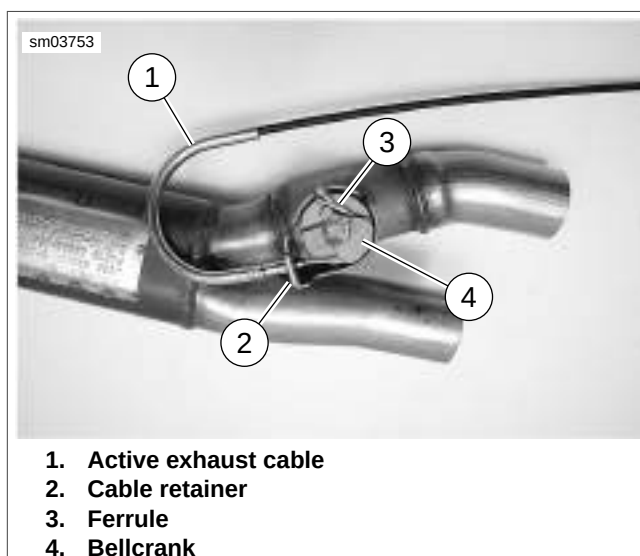
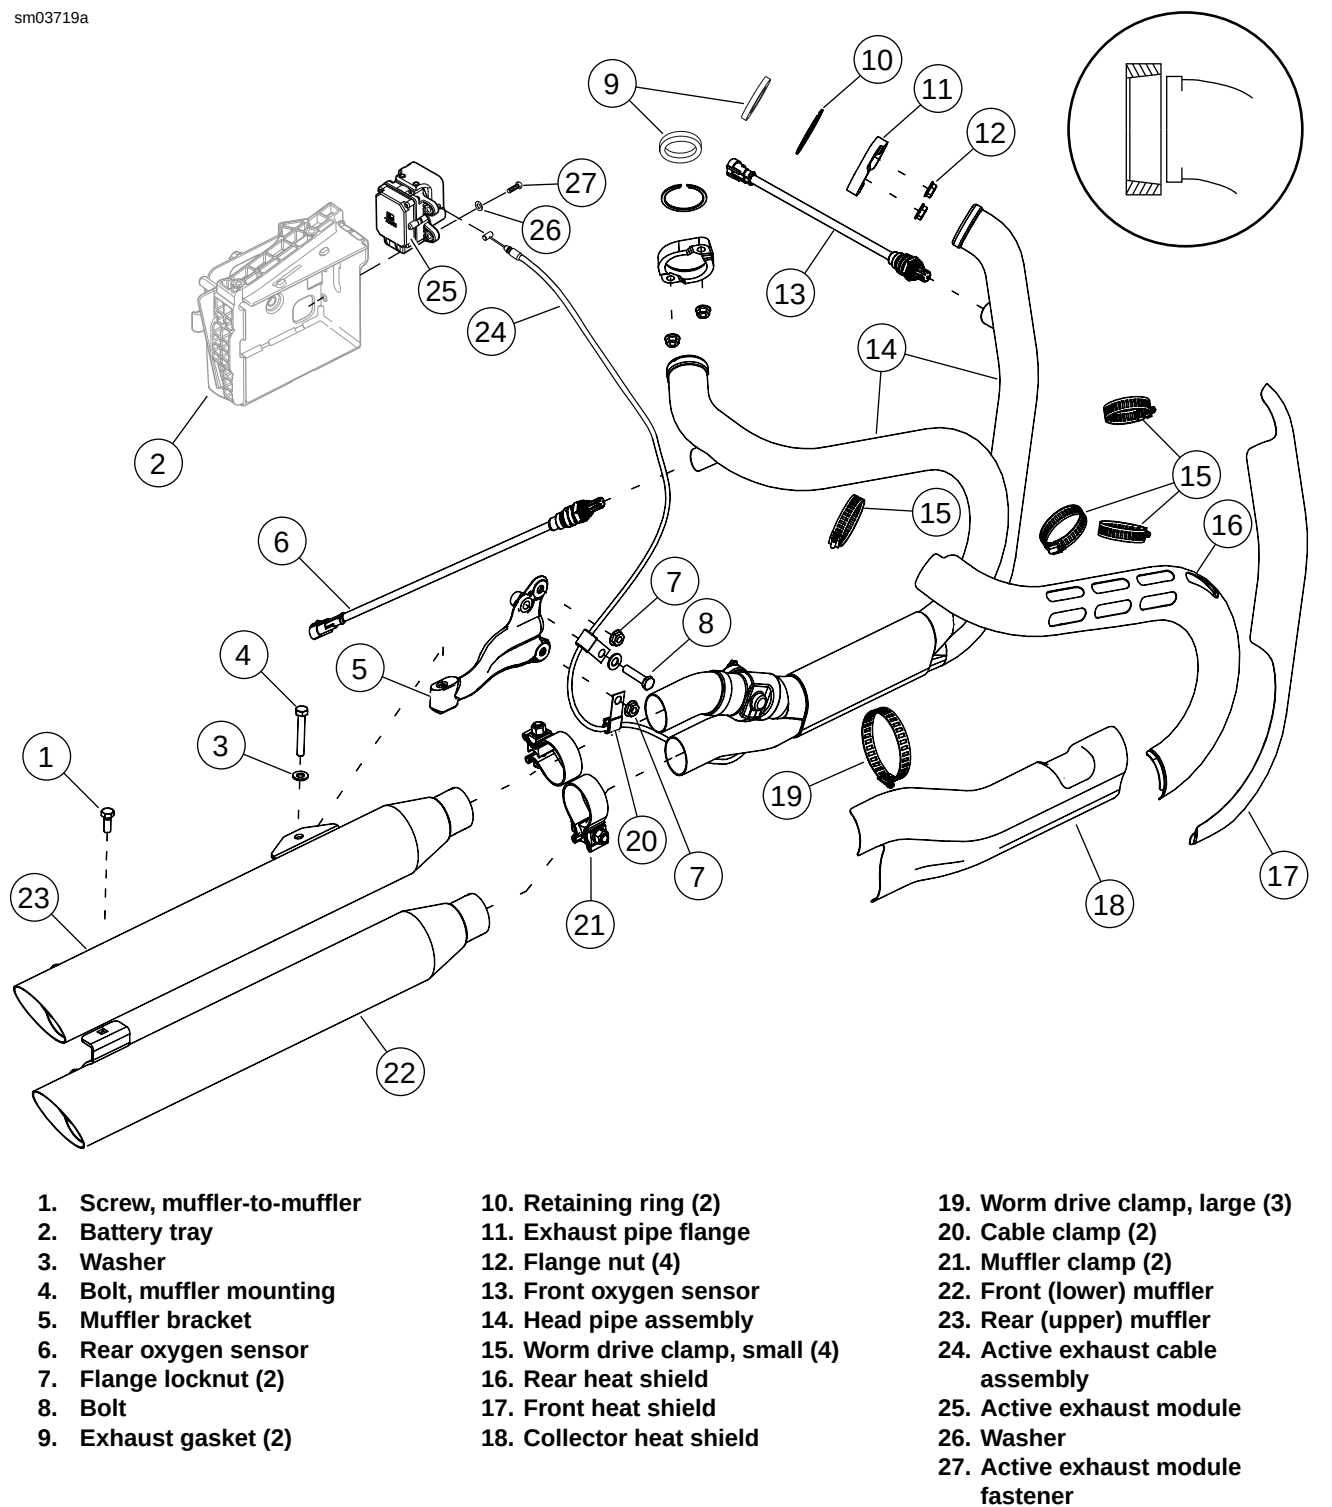
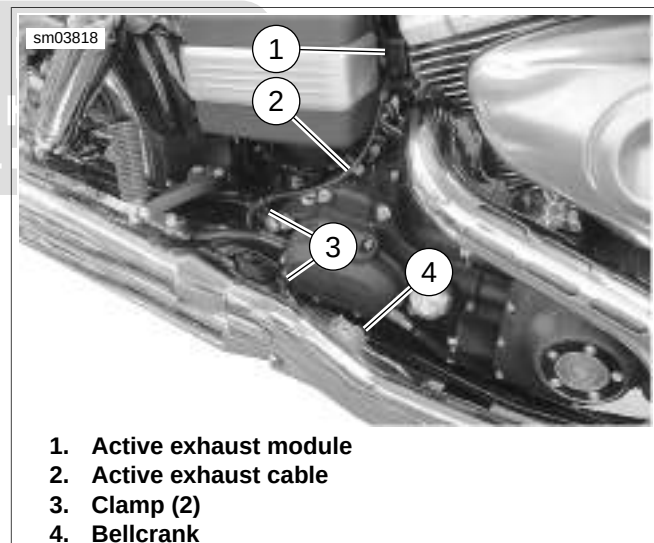

Figure 4-67. Bellcrank: FXDF
Figure 4-68. Exhaust System: FXDF
Figure 4-69. Active Exhaust Cable: FXDF
4. See Figure 4-67. On models with an active exhaust module, remove active exhaust cable (1):
- a. Remove cable and retainer (2) from exhaust pipe.
- b. Remove ferrule (3) from bellcrank (4).
5. See Figure 4-68. Remove screw (1) attaching mufflers together.
6. Remove muffler support bracket bolt (4) and washer (3) attaching mufflers (22, 23) to rear exhaust bracket (5).
7. Loosen nuts on muffler clamps (21). Remove mufflers.
9. Remove flange nuts (12) from front and rear cylinder head exhaust studs.
10. Remove head pipe assembly (14).
11. If necessary, remove flange locknuts (7) and bolt (8) to remove muffler bracket (5).
See inset in Figure 4-68. Replacement exhaust gaskets (9) are tapered internally. Be sure the thin end goes over
1. See Figure 4-68. If removed, install muffler bracket. Tighten flange locknuts (7) to 15-19 ft-lbs (20.3-25.8 Nm). Tighten bolt (8) to 15-19 ft-lbs (20.3-25.8 Nm).
2. Position ends of head pipe assembly (14) into front and rear cylinder head exhaust ports with holes in exhaust manifold flanges (11) over cylinder head exhaust studs. Loosely install flange nuts (12).
3. Slide muffler clamps (21) onto exhaust pipes.
10. Tighten muffler mounting bolt (4) to 15-19 ft-lbs (20.3-25.8 Nm). Tighten muffler attaching bolt (1) securely.
12. See Figure 4-67. On models with an active exhaust module, install active exhaust cable (1):
- a. Install ferrule (3) in bellcrank (4).
- c. Install cable and retainer (2) on exhaust pipe.
- d. See Figure 4-69. Make sure cable routing is correct and secure with two camps (3).